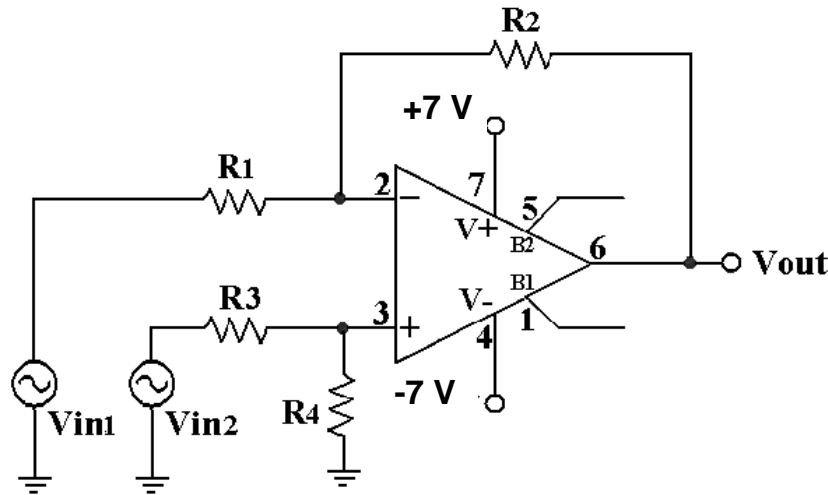

Fig 2. Differential amplifier circuit
*Differential amplifier:* The differential amplifier is designed to amplify the difference of the two inputs. The simplest configuration is shown in Fig. 2.